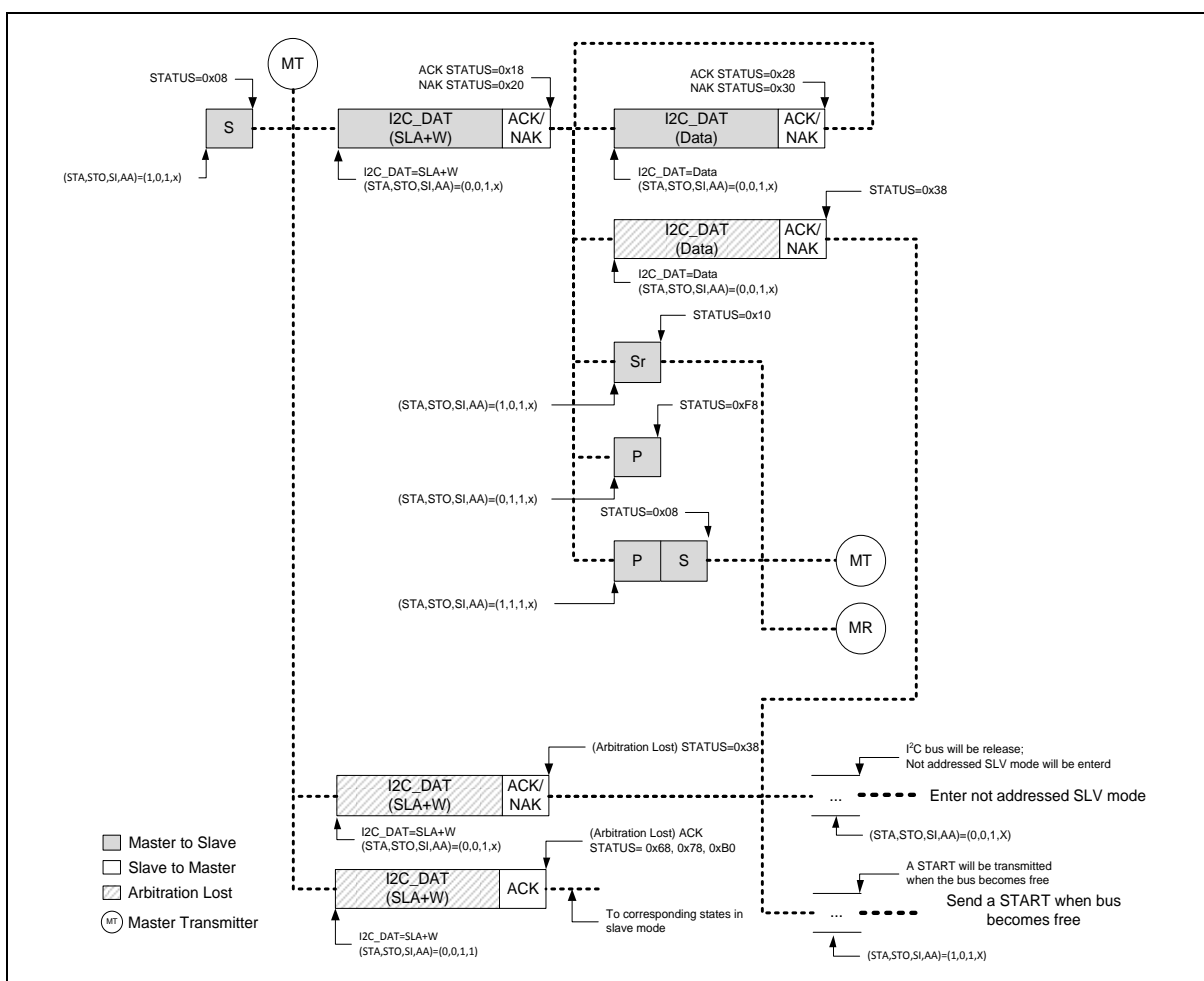
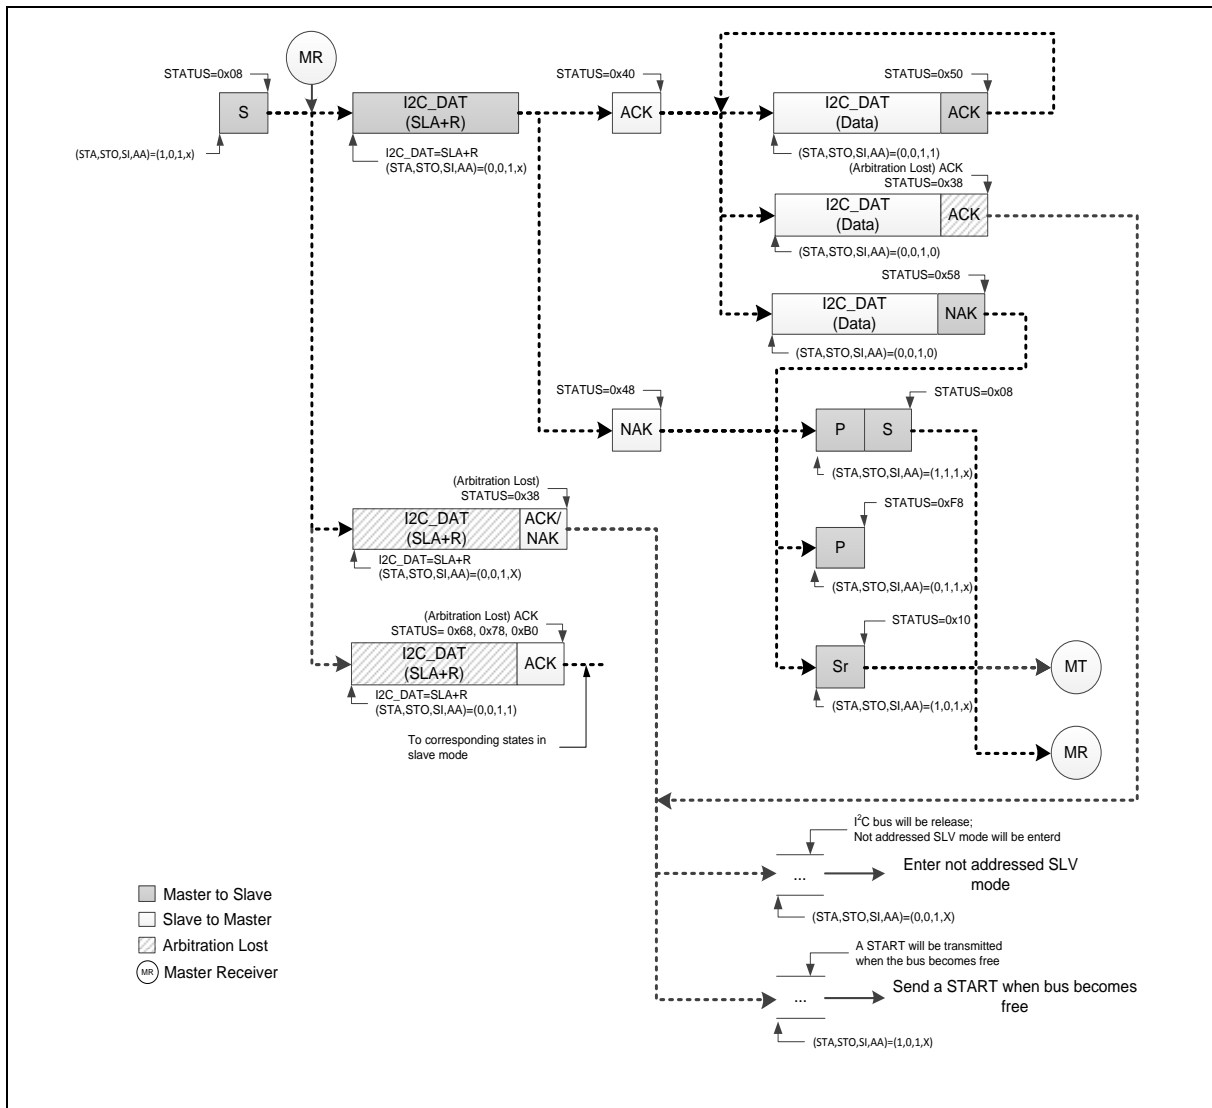

Figure 6.11-10 Master Transmitter Mode Control Flow
Figure 6.11-11 Master Receiver Mode Control Flow
In Figure 6.11-10, all possible protocols for I²C master are shown. User needs to follow proper path of the flow to implement required I²C protocol.
In other words, user can send a START signal to bus and I²C will be in Master Transmitter (MT) mode (Figure 6.11-10) or Master receiver (MR) mode (Figure 6.11-11) after START signal has been sent successfully and new status code would be 0x08. Followed by START signal, user can send slave address, read/write bit, data and Repeat START, STOP to perform I²C protocol.